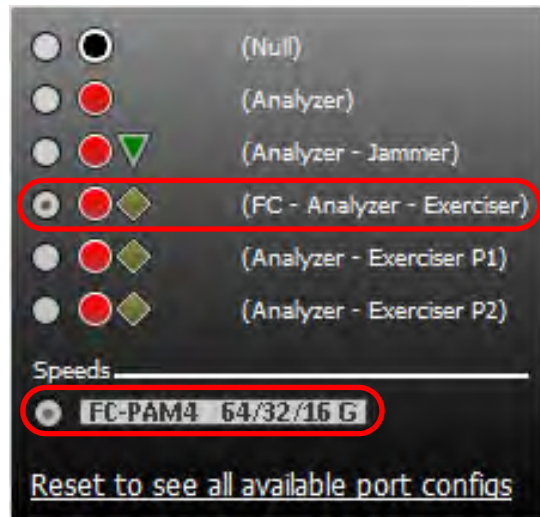

Figure 8.3: M648 P1/P2 Drop-Down Menu
- a. Click the drop down arrow next to the active ports to configure (Figure 8.3).